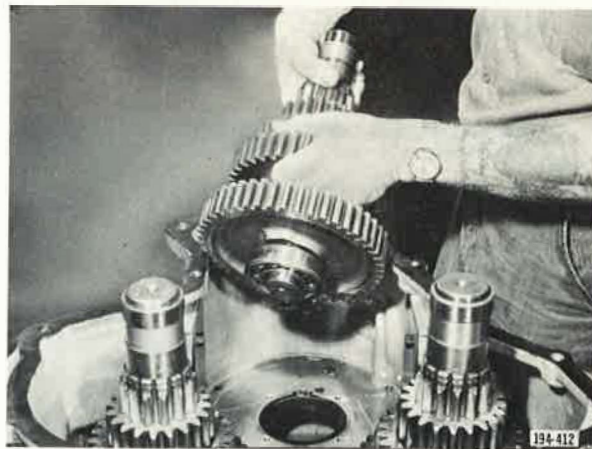

Figure 36. Installing Front Countershaft Assemblies
1. With transmission front case in a vertical position install the three front countershafts. See Figure 36.